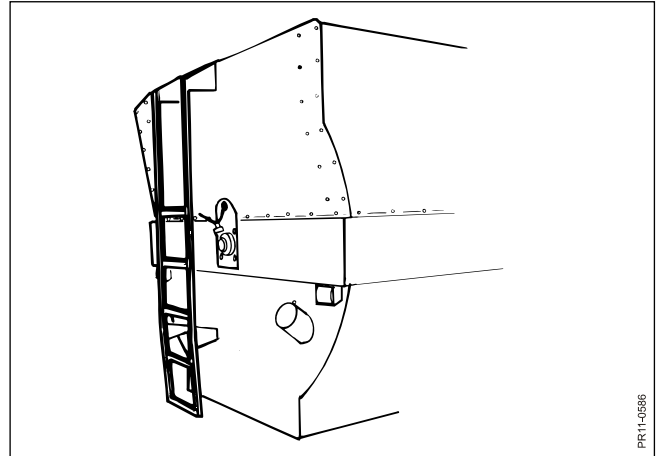

Fig. 9.2
- Fig. 9.2** The ladder is intended for inspection, to clean the mixing tank inside, and to remount rubber scrapers or shearbars.